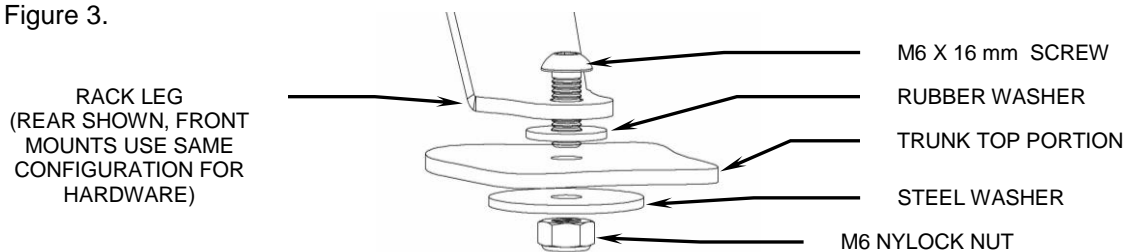

FIGURE 3
10. With the help of an assistant place a steel washer, and nylock nut on each protruding screw on the inside of the trunk lid. Again align the rack side to side and fore / aft and tighten nuts firmly. See Figure 3.